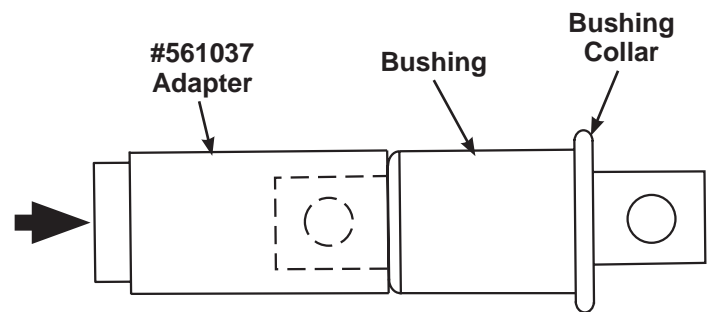

Figure 1
1. Begin by determining which side of the spring the bushing collar is on. The bushing will be removed by applying force to the bushing end opposite of its collar. See Figure 1.